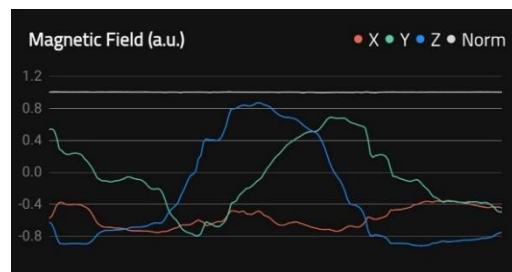

Figure 5: Mag Norm is constant while moving
- Areas for which the magnetic norm = 1 and the variation remains within  $\pm 0.2$  are **magnetic homogeneous** and best for carrying out the measurements (see Figure 5). However, if the measurement begins with a magnetic norm of around 2 or 3, and remains within  $\pm 0.2$  of this value, the orientation should remain accurate.